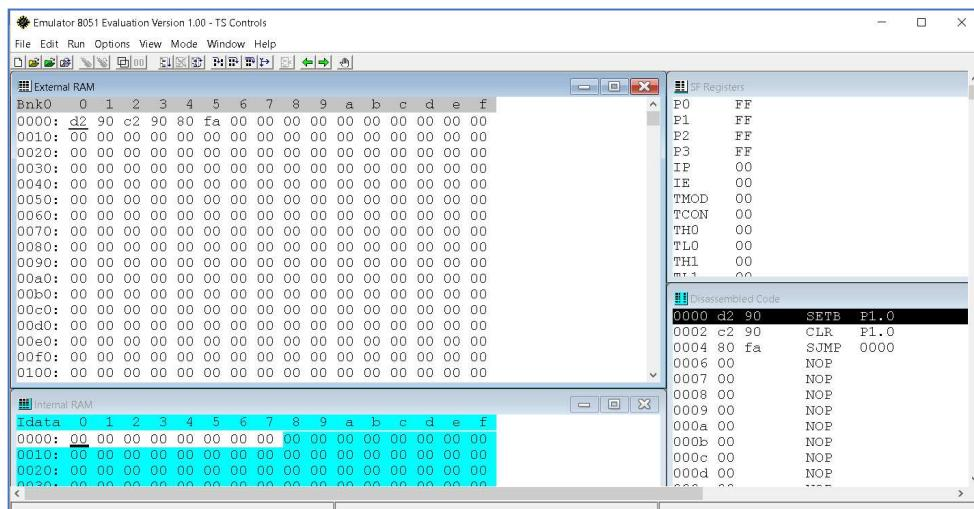

Figure 3.9: New window opening after building and simulating the Code in MIDE-51
- d. If there will be **0 error(s)** following window will open as shown in Figure 3.9.